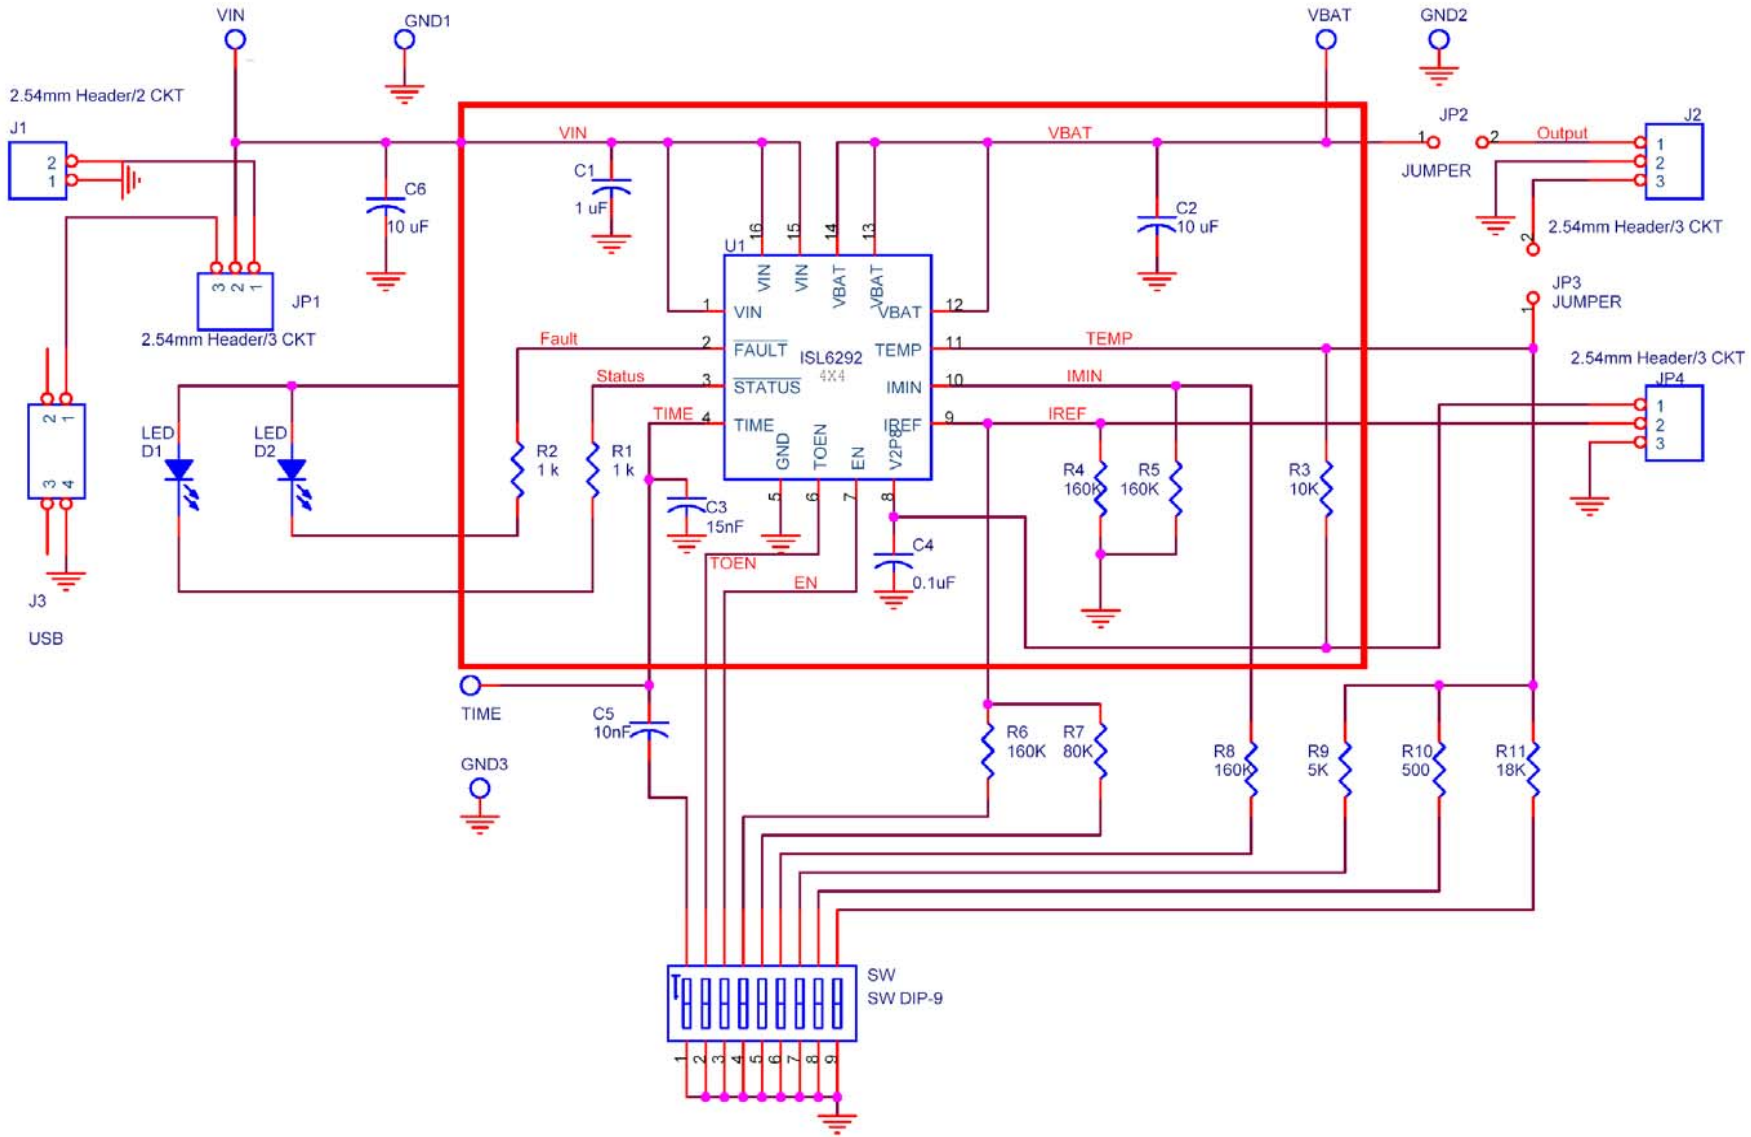

FIGURE 3. BOARD LAYOUT INFORMATION SCHEMATIC
**Initial Board Jumper Positioning (Refer to Figure 3)**